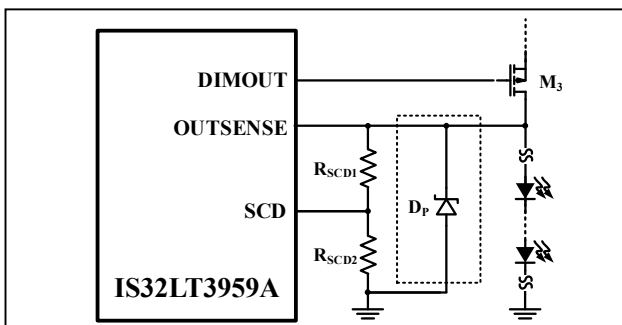

Figure 59 Schottky Diode for Hot Plugging Protection
(2) Minimize the PCB area of the switching current loops. The input capacitors  $C_{IN}$ , inductor  $L_1$ , power switches  $M_1$  and  $M_2$ , Schottky diodes  $D_1$  and  $D_2$ , current sense resistor  $R_{CS}$ , and output capacitors  $C_{OUT}$  should be placed as close to each other as possible and the trace connections between them should be as short and wide as possible.
(3) The (-) terminals of the input capacitors  $C_{IN}$  should be connected as close as possible to the (-) terminals of the output capacitors  $C_{OUT}$ .
- (4) Connect the bootstrap capacitor,  $C_{BST}$ , close to the BST and SW pins.
- (5) The output OVP setting resistor divider,  $R_{O1}$  and  $R_{O2}$ , must be placed as close to FB and AGND pins as possible.
- (6) The LED short detection resistor divider,  $R_{SCD1}$  and  $R_{SCD2}$ , must be placed as close to SCD and AGND pins as possible.
- (7) The ground of the current sense resistor,  $R_{CS}$ , should be directly connected to SGND pin by a separate trace to prevent SGND plane jitter and ensure precise sensing.
- (8) To avoid ground jitter, the parameter setting components should be placed close to the corresponding pins and return to the AGND pin, and keep their trace length to the pins as short as possible. On the other side, to prevent the noise coupling, the traces of these components should either be far away or be isolated from high-current paths and high-speed switching nodes. These practices are essential for best accuracy and stability.
- (9) The capacitors  $C_{VCC}$  and  $C_{VDD}$  should be placed as close as possible to VCC and VDD pin for good filtering.
- (10) In practice, if the LED string is far away from the driver board and connected through long cables, the parasitic inductance in the cables will form a LC-resonant circuit with the  $C_{OUT}$ . In the case of hot plugging the output connector or an unreliable connector, this LC-resonant circuit will crease oscillation on the OUTSENSE pin due to the  $C_{OUT}$  fast discharging. This oscillation could subject the OUTSENSE pin to negative spike voltages exceeding their Absolute Maximum Ratings that may permanently damage the OUTSENSE pin. Add a 60V/1A Schottky diode  $D_P$  from the OUTSENSE pin to GND (placed close to OUTSENSE pin) to avoid this negative spike voltage. Figure 59.